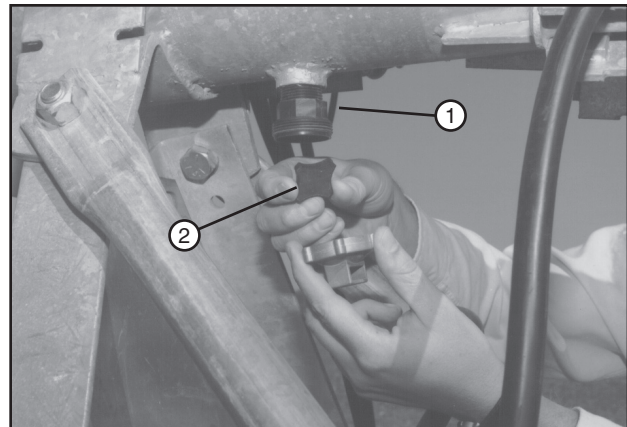

Figure 106-1 1. Pipe Drain
3. Remove the pipe drains at each drive unit tower. Clean sand and foreign particles from these drains. Turn the rubber drain seal over when reinstalling. See figure 106-1.